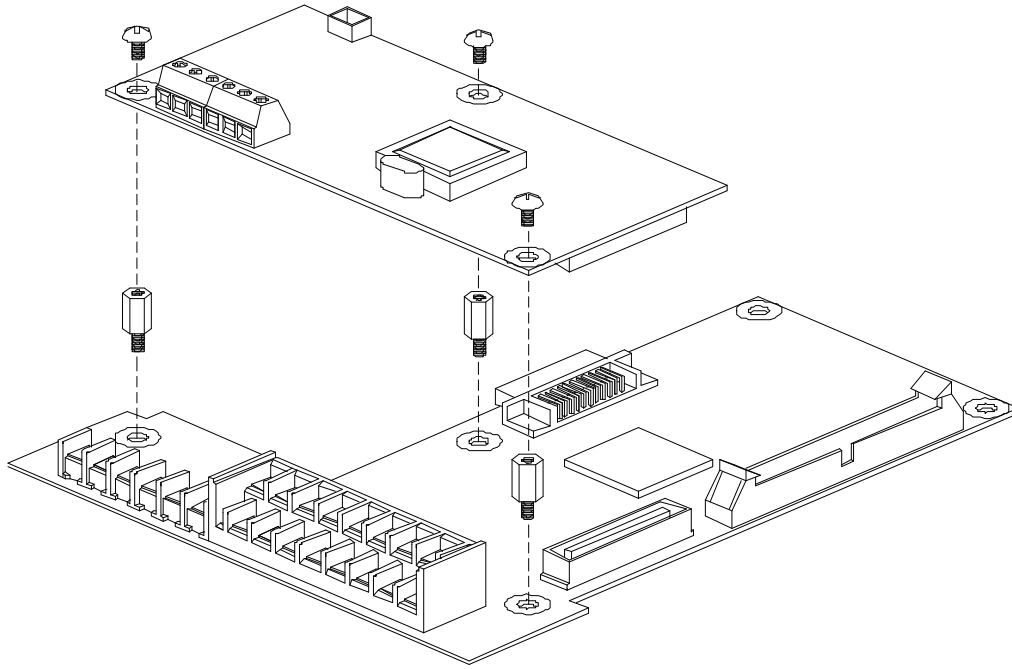

Figure 1. Layout
1. Connect the option board to the inverter control board using each connector on the board (See the Figure 1).